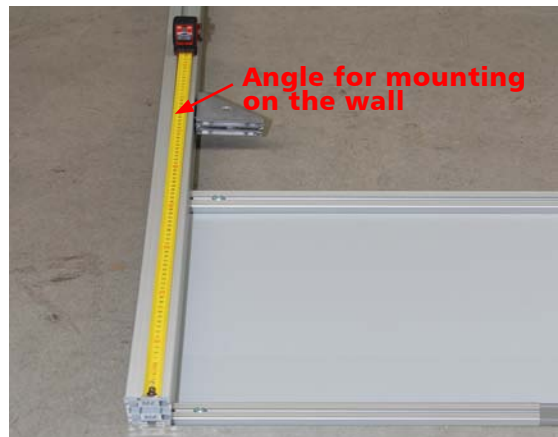

fig. 3.2-12
**Step 10** In order to attach the angles **A2f** to the side supports (**fig. 3.2-12**), please take the following measurements:
**Step ⑩** Insert eight (8) T-nuts **M8** into the upper lead channels at the inside of the side supports and align them according to the measurements taken (4 T-nuts per side of which 2 are per measurement).
**Step ⑪** Now mount the angles **A2f** to the upper lead channels at the inside of the side supports using two (2) Verbus-Ripp-screws **M8x20** per angles (**fig. 3.2-12**). Please tighten the screws appropriately (ca. 25 Nm).